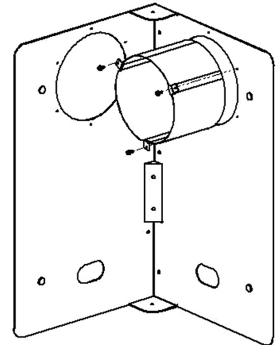

Figure 3
4. Attach the inner and outer telescoping vent pass through heat-shields to the wall plate as shown in **Figure 3 & 4**. The vent pass through heat-shields are to be installed where the vent passes through the first adjacent wall to the left or right of the corner install kit